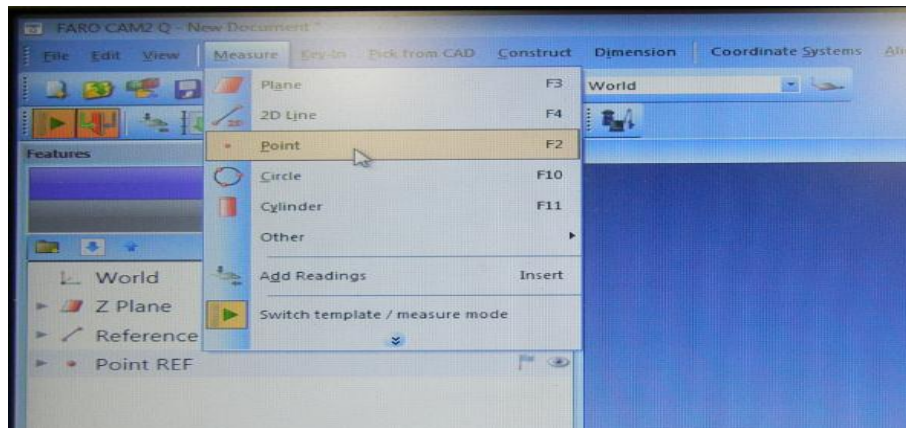

Figure 9: Point Selection
4.3.1.3 Measure a Point. Click on the measure dropdown tab on the top pane and select point. This is shown in Figure 9.